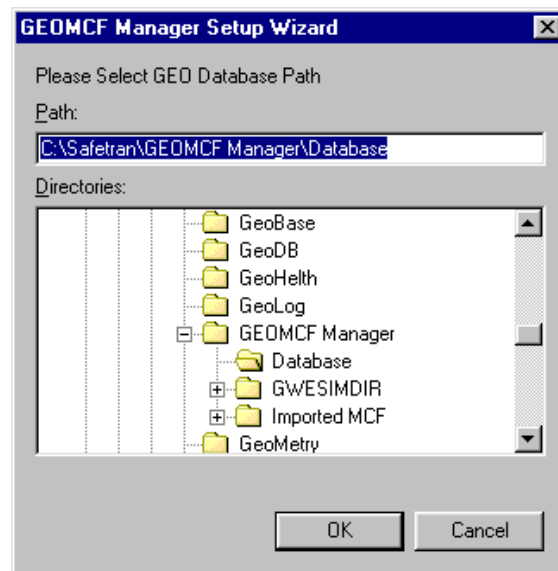

Figure 1-11
5. The GEOMCF Manager Setup Wizard window allows the user to select the path to the GEO[®] database (figure 1-11).